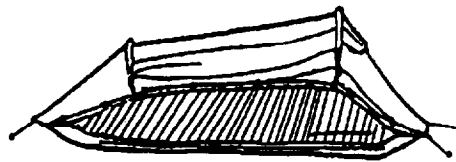

Figure 2-6. Tent with Summer Screen
(2) To insert the summer screen (See Figure 2-6), proceed as follows: